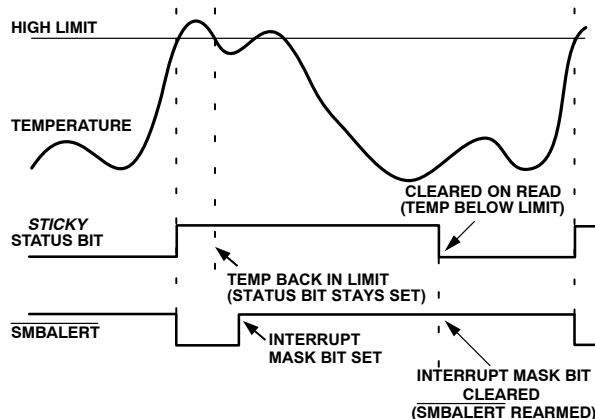

Figure 30. How Masking the Interrupt Source Affects  $\overline{\text{SMBALERT}}$  Output
7. Periodically poll the status registers. If the interrupt status bit has cleared, reset the corresponding interrupt mask bit to 0. This causes the  $\overline{\text{SMBALERT}}$  output and status bits to behave as shown in Figure 30.